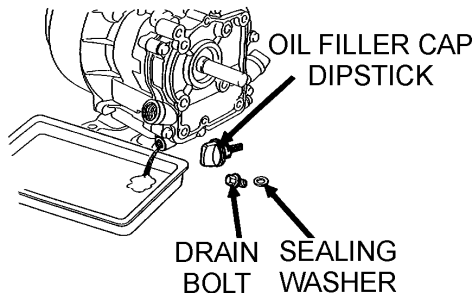

Figure 49. Draining Engine Oil
1. Drain the engine oil when the oil is warm as shown in Figure 49.